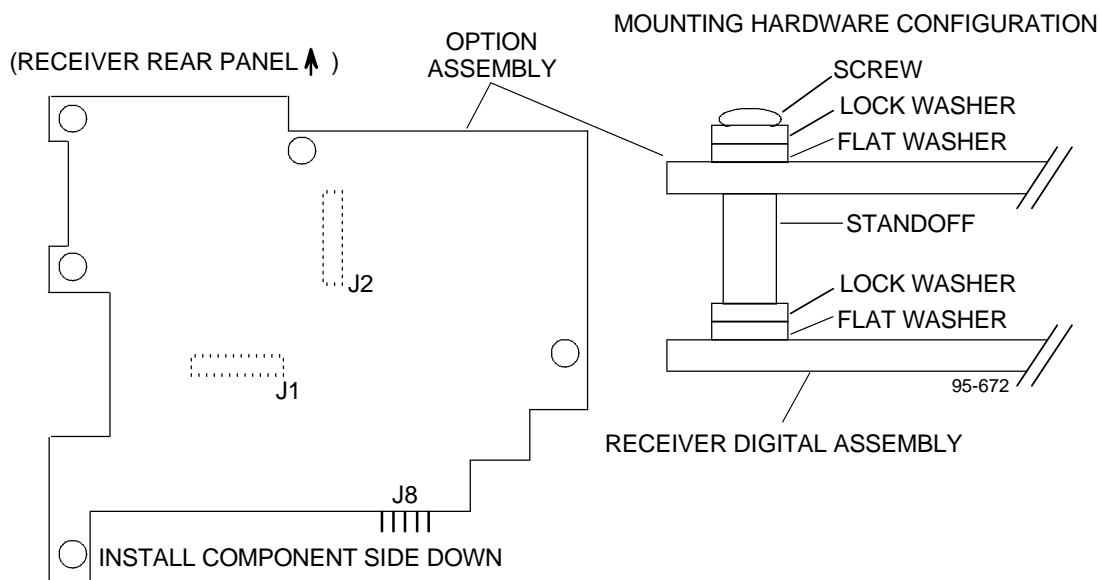

Figure G-7. Type 797201-003 Digital Expansion Assembly Hardware Illustration
4. Orient the Type 797201-003 Digital Expansion Assembly as illustrated in **Figure G-7**, with the component side facing down and J8 pointing toward the front of the receiver. Carefully connect sockets J1 and J2 with J8 and J9 on the Digital Control Assembly (A2). Using slight pressure, seat the Digital Expansion Assembly into place.
5. At each of the five mounting holes on the Type 797201-003 Digital Expansion Assembly, install one mounting screw, one flat washer and one lock washer. Refer to the mounting hardware configuration in **Figure G-7** for the orientation of these parts.